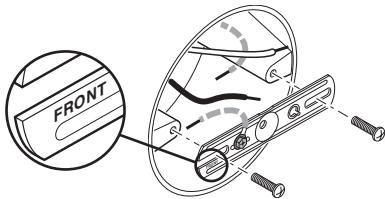

Figure 1
2. Install the mounting bracket with the stamped word "FRONT" facing away from the junction box (see Figure 1). Use the mounting bracket screws that best fit the junction box.